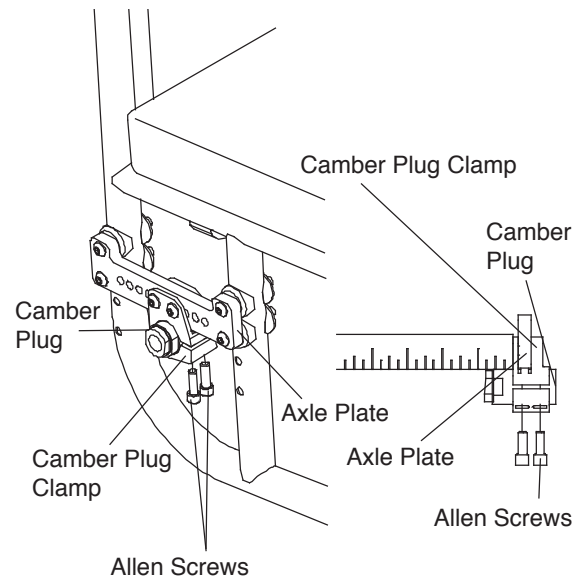

Figure 47
2. Loosen, but do not remove, the two Allen Screws that secure the camber plug to each camber plug clamp. See Figure 47. If you are adjusting the rear wheel spacing, only loosen the screws enough to permit the camber plug to slide in and out of the camber plug clamp and skip to Step 5 below.